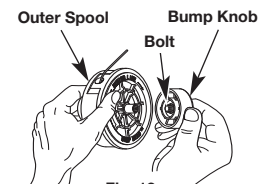

Fig. 13
1. Hold the outer spool with one hand and unscrew the bump knob counterclockwise (Fig. 13).